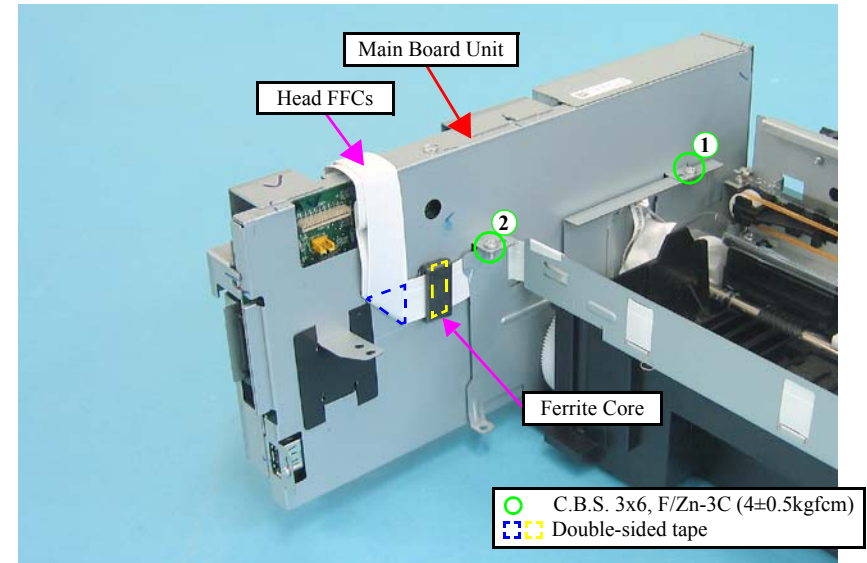

Figure 4-22. Removing the Main Board Unit
- When installing the Main Board Unit, tighten the screws in the order given in Figure. 4-22.